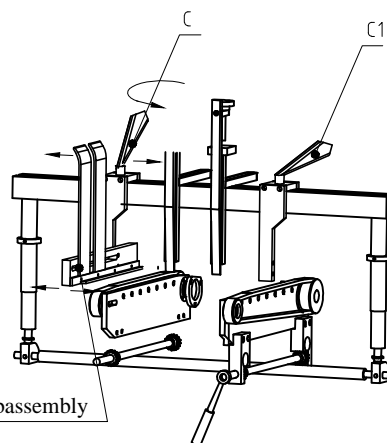

Fig 1-2
- ② Turn the fixed handle (C), loosen the fender bracket subassembly, move the subassembly according to the specification of paper, see Fig.1-2. The overall position of the fender bracket subassembly of both sides should be at the middle of the machine. Its interval is to be moved to both sides according to the width of paper. Fasten it after confirming the position.
Fender bracket subassembly Fig. 1-2